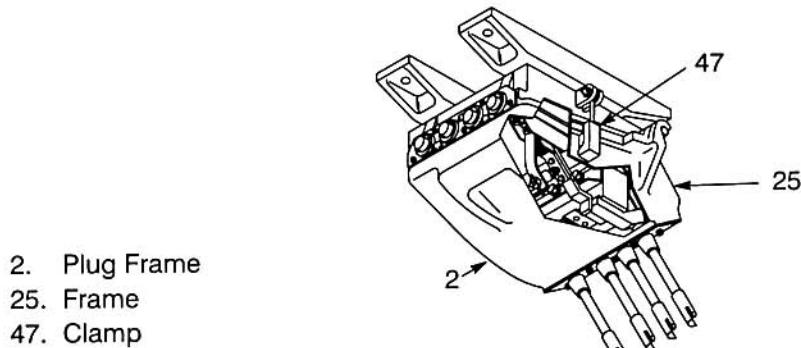

Figure 7-81 Remove/Install Coupler Plug/Socket
- Swing out clamps (47, Figure 7-81) to unsecure/secure coupler plug to socket.
- Remove/install coupler plug frame (2) hinge pivots to coupler socket frame (25) hinge pins.